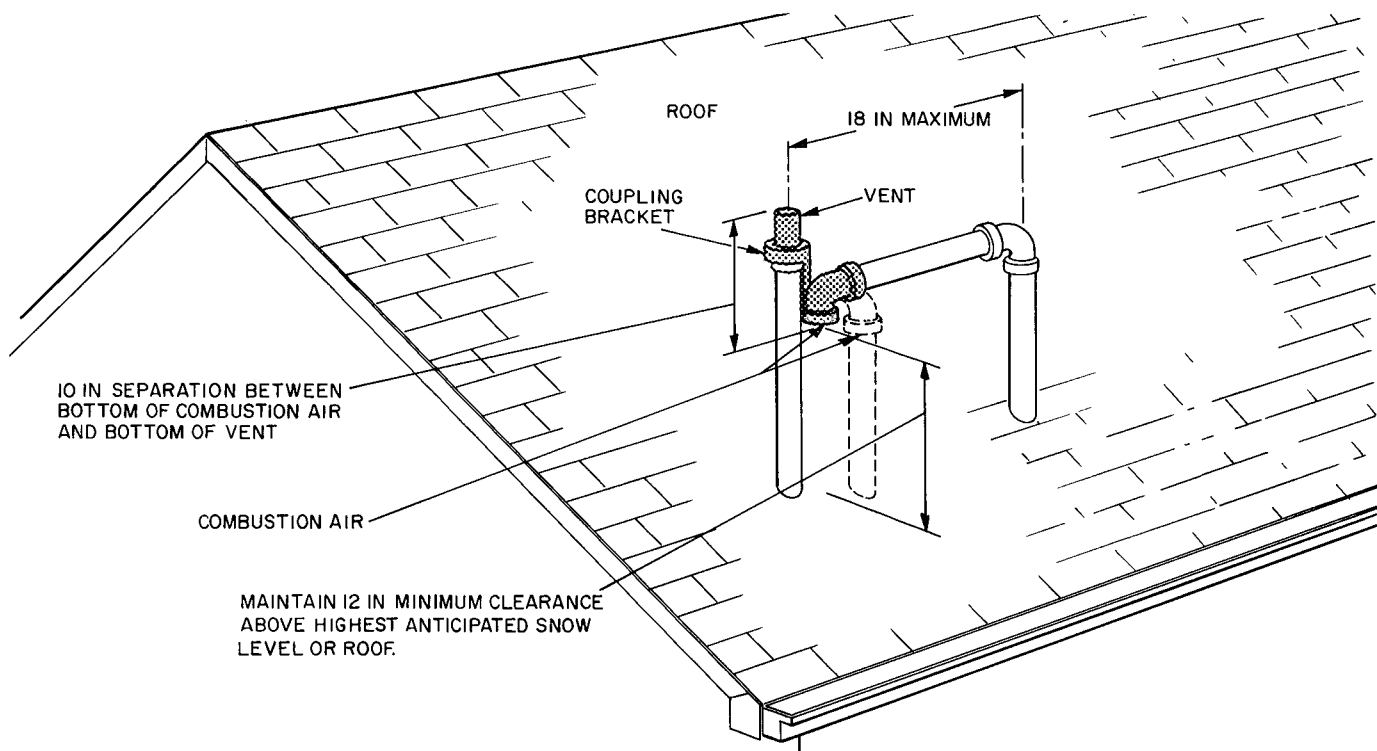

Fig. 2 — Rooftop Vent Terminal Installation
Combustion-Air and Vent Piping — The schedule-40 PVC pipe and fittings must conform to American National Standards Institute (ANSI) standards and American Society for Testing and Materials (ASTM) standards D1785 or D2665. PVC pipe cement and primer must conform to ASTM D2564. See Tables 3 and 4 for pipe sizing and Fig. 2, 3 and 4 for exterior piping arrangements. See High Altitude Pipe Sizing Procedures section for high altitude applications.
Vent Terminal Kit Installation—The combustion-air and vent pipes must terminate outside the structure. The Carrier accessory vent termination kit (required) must be installed as shown in Fig. 2, 3 or 4. Roof termination, shown in Fig. 2, is preferred.
NOTE: The shaded portions of Fig. 2, 3 and 4 are considered part of the vent terminal and are provided in the vent terminal kit. They should not be counted, therefore, in pipe diameter calculations.
ROOFTOP VENT TERMINAL INSTALLATION (Fig. 2)
NOTE: The solid-line arrangement in Fig. 2 is the preferred arrangement; the dashed-line arrangement is an option for the combustion-air pipe.
3. Loosely install pipe coupling, provided in kit, on properly cut vent pipe. Position coupling so that bracket will mount as shown in Fig. 2.
6. Install bracket as shown in Fig. 2.
7. For applications using combustion-air pipe option (indicated by dashed lines in Fig. 2), install 180° U-fitting on end of pipe instead of 90° elbow.
SIDEWALL VENT TERMINAL INSTALLATION — Install kit as follows when combustion-air and vent pipes exit through sidewall 12 in. or more above highest anticipated snow level or grade (Fig. 2).